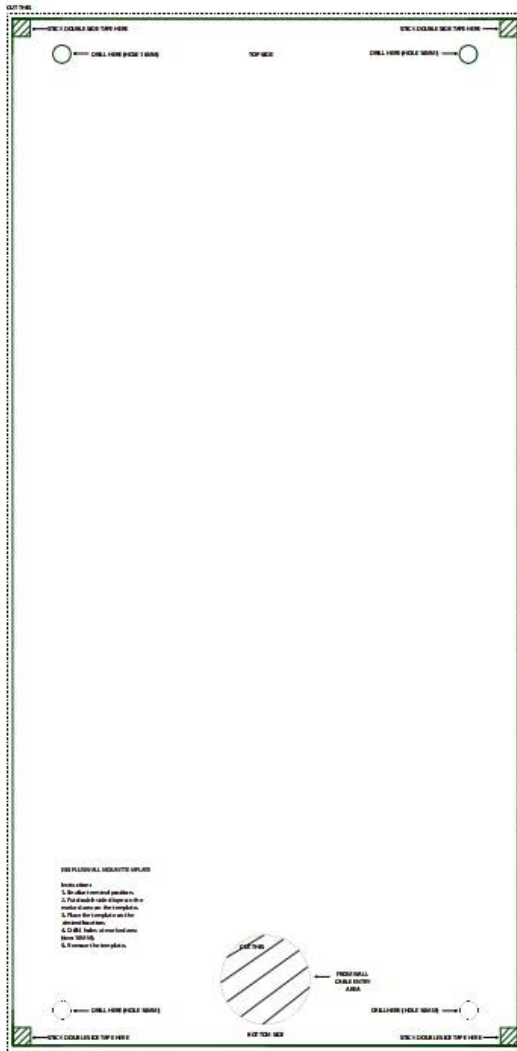

Figure 2.3: E55 Plus Wall mount template.
3. Take wall mount template (Figure 2.3) and stick it by using double sided tape on the wall. Make sure the side position of kiosk, floor distance and cable hole area is correct.